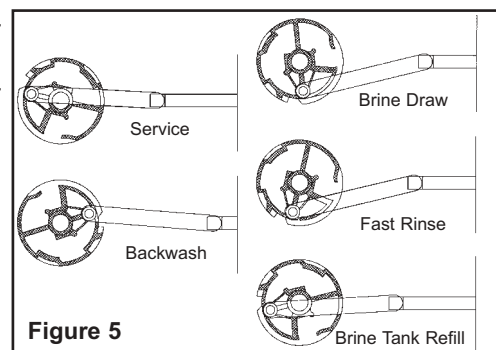
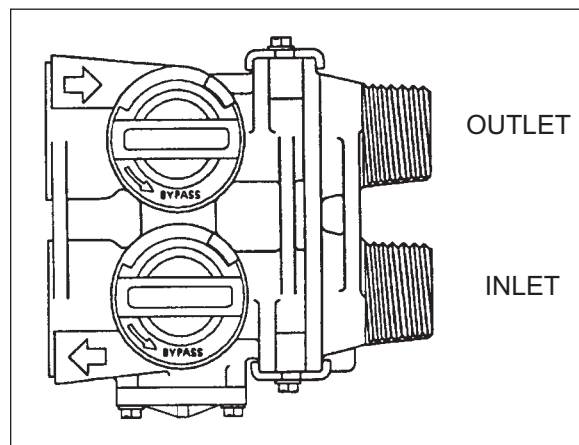

Figure 5
Figure 7
- Manually turn the Manual Backwash Knob on the timer slowly through backwash, brine draw, fast rinse to the Brine Tank Refill cycle. Once in the Brine Tank Refill cycle, allow valve to fill tank automatically. The correct amount of water is automatically metered into the air check tube in the brine well into the brine tank. The Brine Tank Refill cycle can be located by observing the drain line and watching the movement of the piston gear (see figure 5) on the valve. These cycles are as follows:
- Wait approximately four (4) hours for water in brine tank to fully dissolve salt.
- Move the bypass valve to the normal service position. (See Page 5, Figure 7)
Manual Bypass (Figure 7)